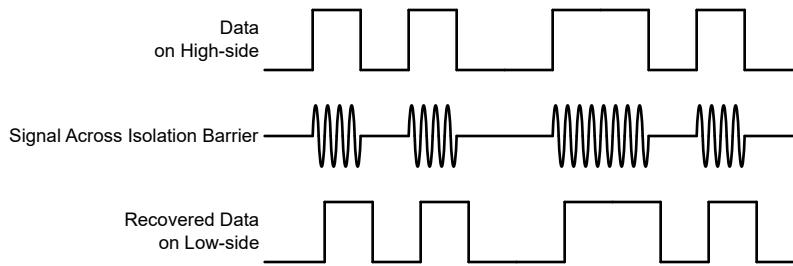

Figure 6-4. OOK-Based Modulation Scheme
The AMC23C12 uses an on-off keying (OOK) modulation scheme, as shown in Figure 6-4, to transmit the comparator output states across the SiO_2 -based isolation barrier. The transmit driver (TX) shown in the Functional Block Diagram transmits an internally-generated, high-frequency carrier across the isolation barrier to represent a digital one and does not send a signal to represent a digital zero.